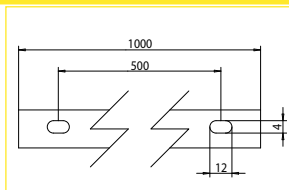

Abb. 1a Position der Schlitze
A.A.G. Stucchi ONETRACK® system is a 3 phase mixed system with two additional conductors intended to manage a general data signal (for example dali, dmx, ion, eib, etc.). The system is EN 60570 certified and its installation must be accomplished by highly qualified person. There are four possible installation systems: directly on ceiling or on wall, using the mounting holes (fig 1a) on the track (use a countersink head screw, pic.1b), on ceiling or on wall using a metal clip (code S-9000/III), hanging by the suspension (see the catalog) or recessed without exceeding the maximum loads (pic. 2). During the wiring the electrical the scheme of pic. 3 must be followed.